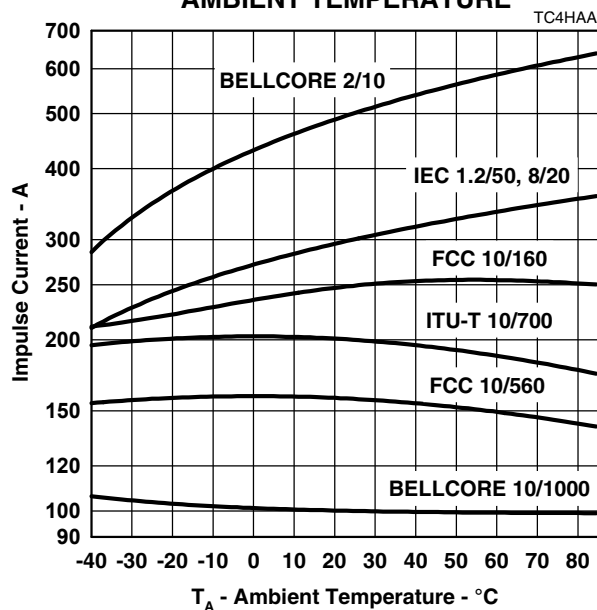

Figure 11.
4. See Applications Information and Figure 11 for current ratings at other temperatures.
If the impulse generator current exceeds the protectors current rating then a series resistance can be used to reduce the current to the protectors rated value and so prevent possible failure. The required value of series resistance for a given waveform is given by the following calculations. First, the minimum total circuit impedance is found by dividing the impulse generators peak voltage by the protectors rated current. The impulse generators fictive impedance (generators peak voltage divided by peak short circuit current) is then subtracted from the minimum total circuit impedance to give the required value of series resistance. In some cases the equipment will require verification over a temperature range. By using the rated waveform values from Figure 11, the appropriate series resistor value can be calculated for ambient temperatures in the range of -40 °C to 85 °C.